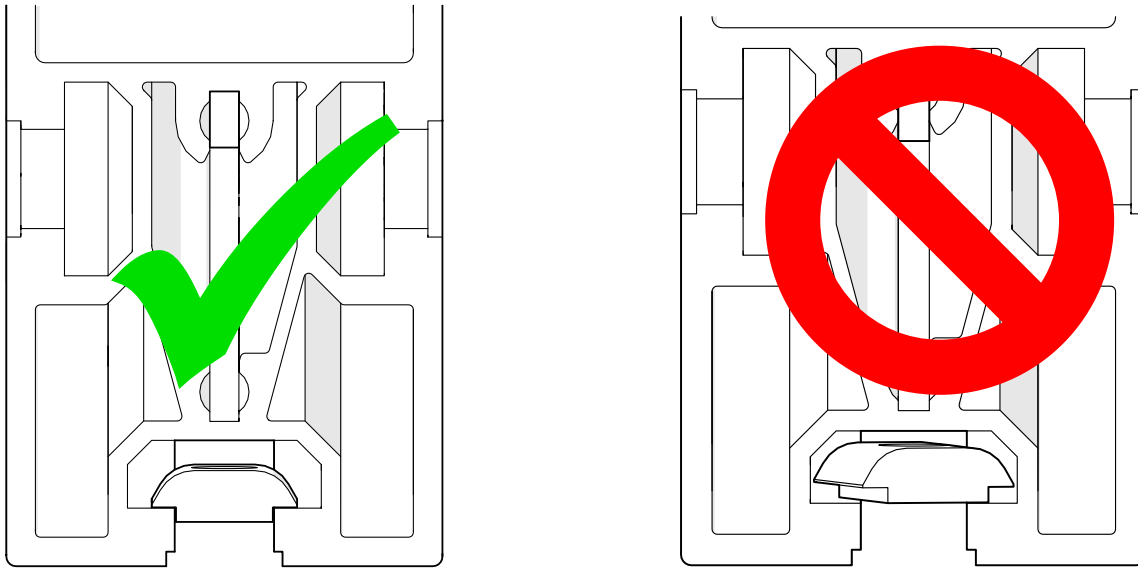

Figure 8: Correct and Incorrect Installation of P-00223
Step 6: After confirming that P-00223 are aligned properly, firmly tighten the M8 SHCS, making sure the LLLU is square with the conveyor strands as shown in Figure 8.